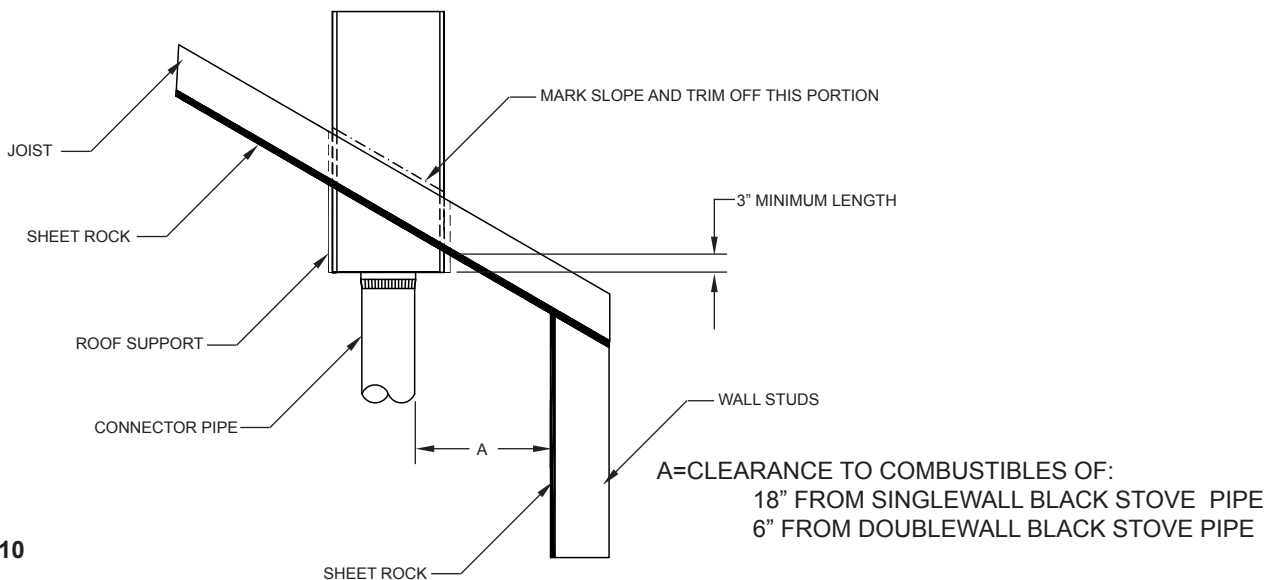

FIG. 10
3. Insert TGRS into framed opening so that the TGRS extends a MINIMUM of three (3) inches below the finished ceiling on the lower side of the installation.
4. With TGRS properly located, mark roof slope on the roof support (See FIG. 10.), Remove from opening and trim off excess metal.
5. Reinsert TGRS and secure in position using a minimum 1" roofing nail, four (4) each per side.